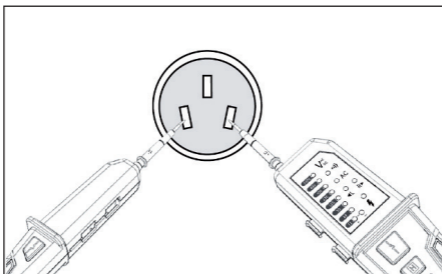

Fig. 3
1. Before the test, select an object of known voltage and connect the two probes to it (for example, a 220V outlet) to ensure the accuracy of the tester (see Figure 3). This tester cannot test AC or DC voltages below 12V. When testing a voltage of $<12\text{Vac/dc}$, the LED indicator may not be lit.